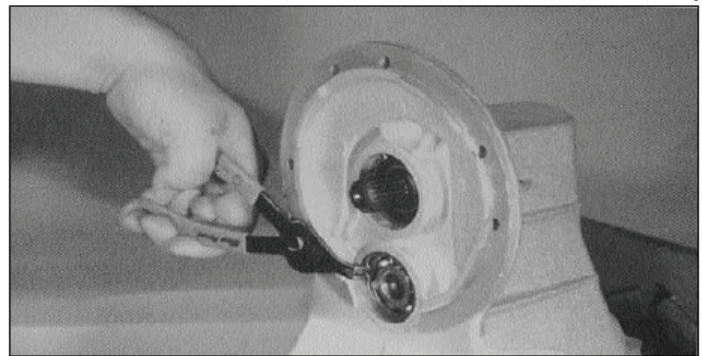

Figure 7-19. Removing Snap Rings
13. Remove snap rings (16) from each intermediate bore. See Figure 7-19.